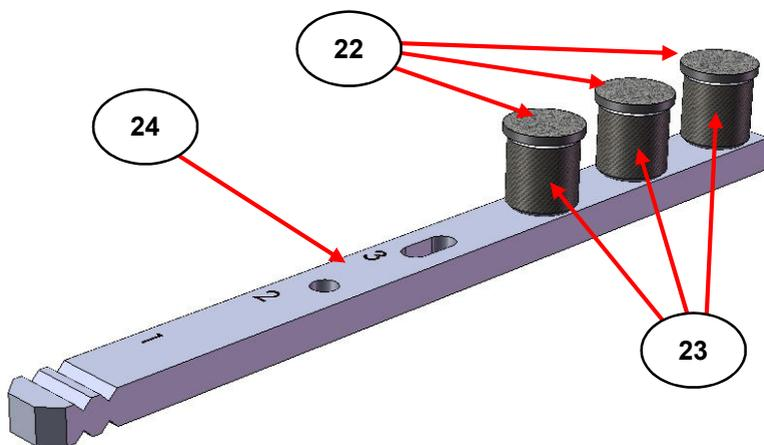

Fig 13. Minidiff Plus Diabrazed Pad Mount Holder Assembly
The diabrazed pad (22) is 9mm diameter and 1mm thick and consists of a rough surface of fine diamond chips embedded into a cloth fabric to produce an abrasive surface for sampling. The diabrazed pad (22) has an adhesive backed surface to allow it to stick to its mount (23). The protective backing of the adhesive surface is simply peeled away to fix a diabrazed pad (22) centrally to the surface of its support mount (23). The diabrazed pad (22) and mount (23) assembly is placed into the Minidiff Plus for a **sampling position** being supported on its own diabrazed pad mount holder assembly (24). (See Fig 13.)
As mentioned in Section 5) for the sample cup holder mount assembly (9), the diabraise pad mount holder assembly (24) has three sampling positions to place a diabraise pad (12) as affixed to its mount (23). (See Fig 13.) Hence on the diabraise pad mount holder assembly (24), you may already wish to have position 1 occupied for a blank (no sample coating) diabraise pad (22) and mount (23) and the spare diabraise pad (22) and mount (23) positions 2 and 3 for actual samples. It is then a simple matter of turning the sample position screw (13) accordingly to change the reference blank diabraise pad (22) from its **sampling position** to load a sample coated diabraise pad (22) at the 2 or 3 position into the **sampling position**.